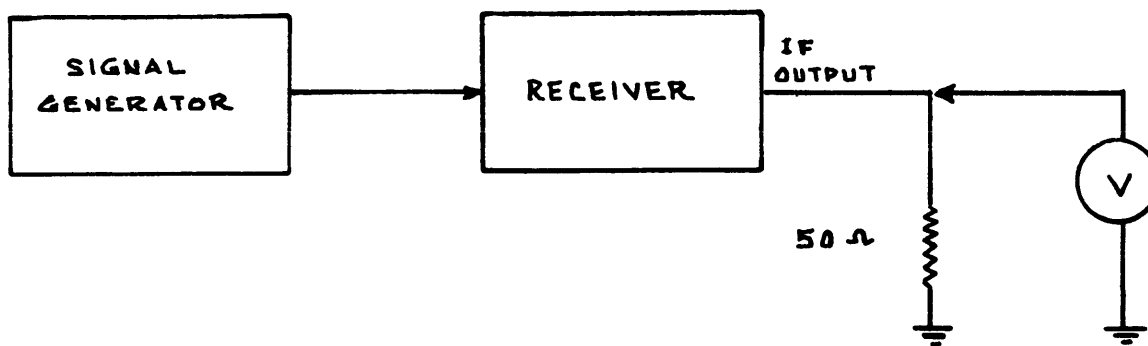

Figure 1
1. Connect an r-f signal generator to the receiver input. Set signal generator output level to the minimum specified level of the receiver, at any tunable frequency. See setup shown in figure 1.